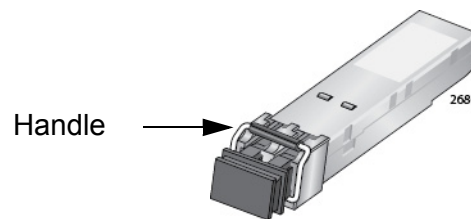

Figure 55. Handle on the AT-StackOP/0.3 and AT-StackOP/9.0 Transceivers
2. To install the transceiver in the S1 slot, position it with the handle on top, as shown in Figure 55. To install it in the S2 slot, position it with the handle on the bottom.